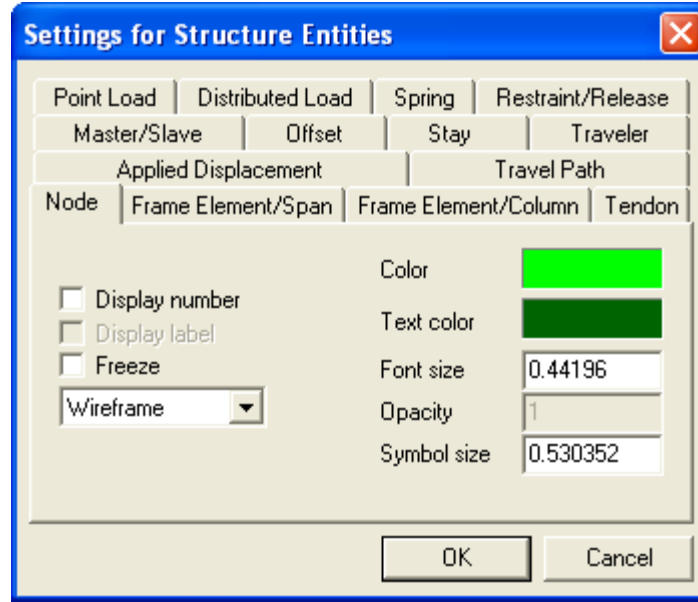

FIGURE 3.3-2 SETTINGS FOR STRUCTURE ENTITIES DIALOG WINDOW
-  **Entity Display Settings.** This tool controls the graphics of all entities. Once clicked, the dialog window shown in **Fig. 3.3-2** opens. Make modifications and click OK button to update the display of entities.